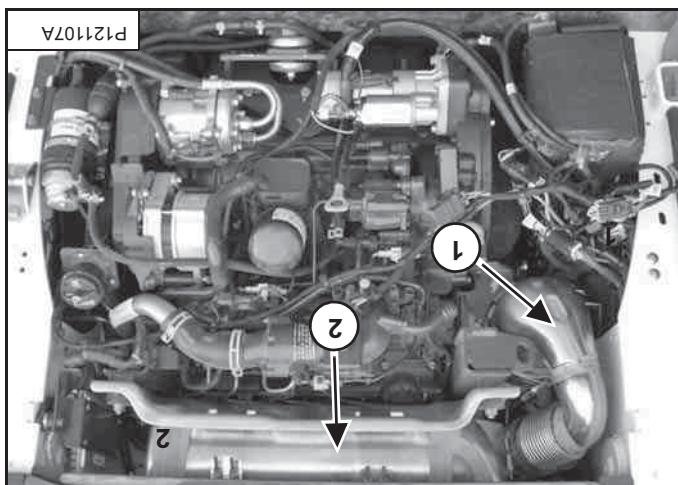

Figure 52
Remove all flammable debris from the Diesel Oxidation Catalyst (item 1) and Selective Catalytic Reduction (item 2) canisters in the engine compartment [Figure 52].